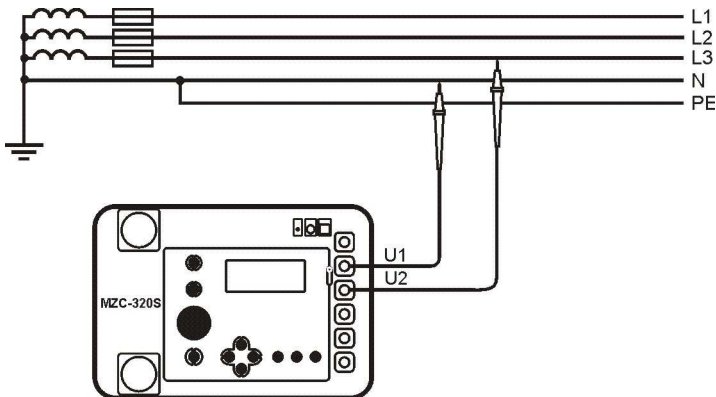

Fig.11 Alternating voltage measurement
- Connect the test cables to sockets: **U₁** and **U₂** (Fig.11)